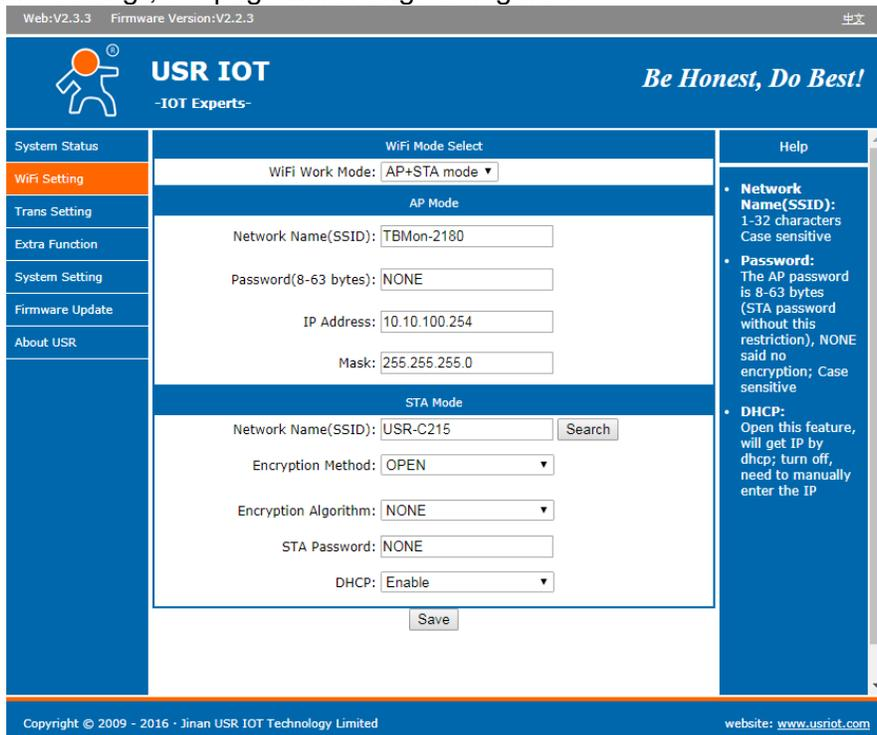

Figure 4: WiFi Setting
5) Click on “WiFi Setting”, the page will change to Figure 4:
Change the WiFi Work Mode selection to “AP+STA mode”, enter your router’s SSID in the Network Name (SSID) box, select an Encryption Method (“WPA2PSK recommended, supported by all recent routers) and Encryption Algorithm and enter your router’s password as shown in Figure 4. Typically, you will also leave DHCP enabled, at least initially. Leave other fields untouched.